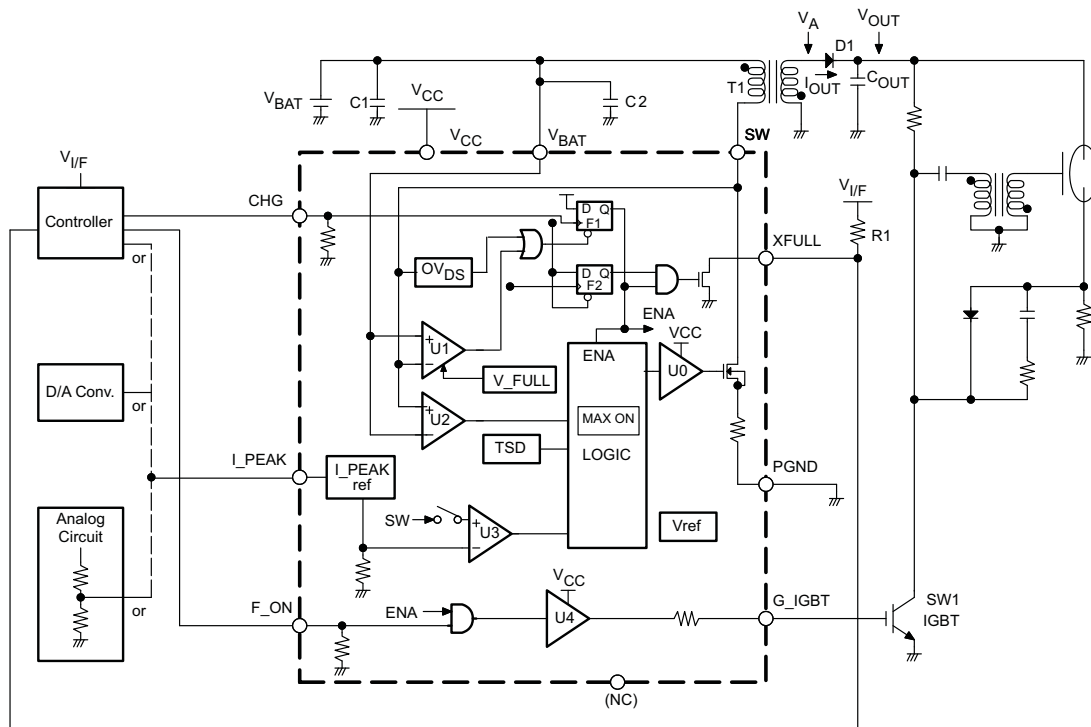
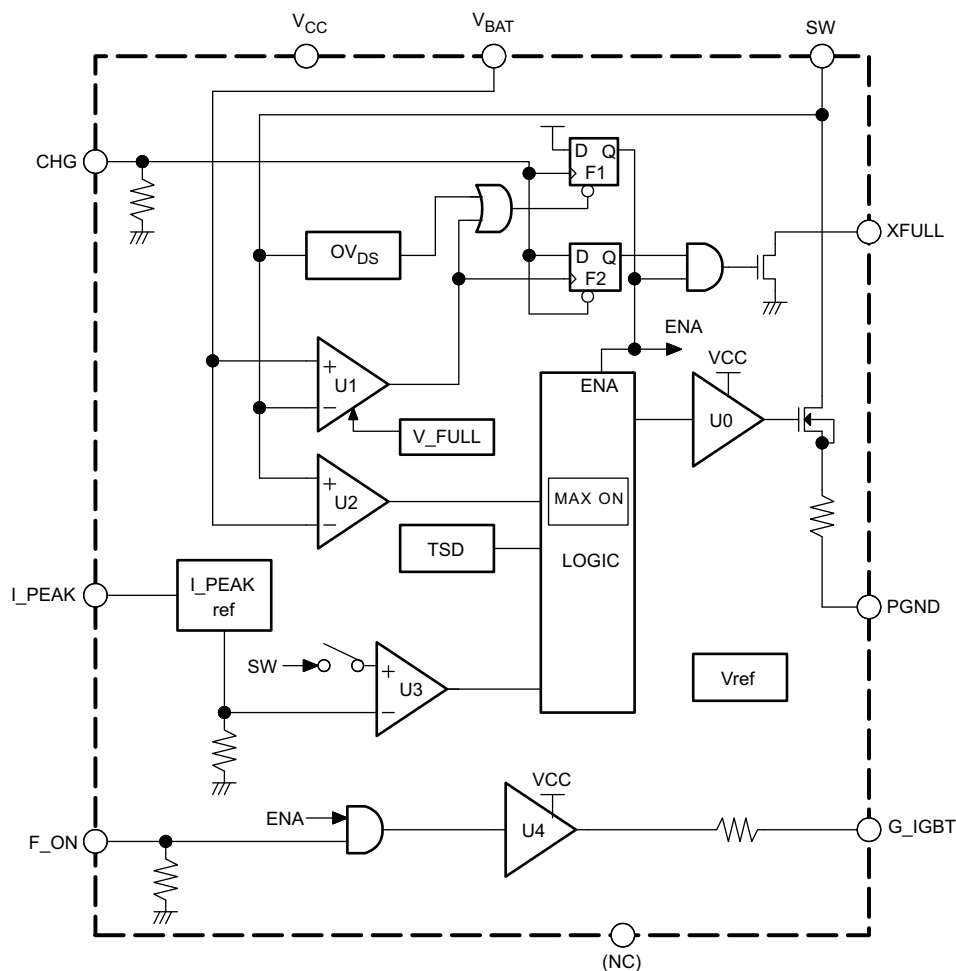
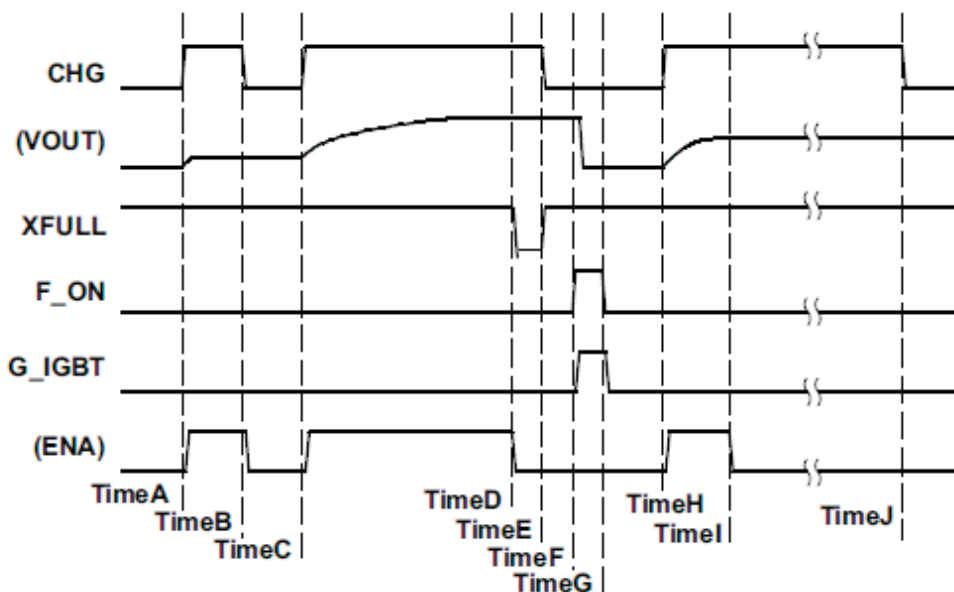
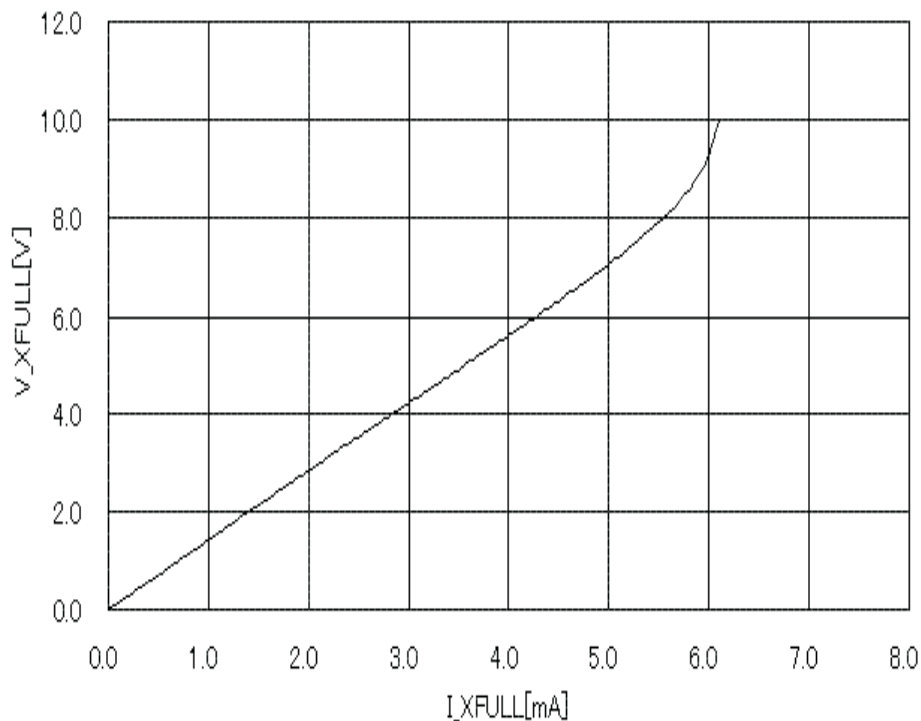

Figure 1. Typical Application Circuit
Figure 2. Block Diagram
Figure 4. Whole Operation Sequence Diagram
Figure 16. I_{XFULL} vs V_{FULL}
The TPS65560/TPS65561 photo flash chargers offer a complete solution for charging a photo flash capacitor from a battery input, and subsequently discharging the capacitor to a xenon flash tube. These devices have an integrated voltage reference, power switch, insulated gate bipolar transistor (IGBT) driver, and control logic blocks for capacitor charging and driving IGBT applications. Compared with discrete solutions, these devices reduce the component count, shrink the solution size, and ease designs for xenon tube applications. Additional advantages are fast charging times and high efficiency from an optimized PWM control algorithm. The typical application circuit is shown in Figure 1.
The TPS65560/TPS65561 have one internal enable latch, F1, that holds the state (ON/OFF status) of the device (see Figure 2). The only way to start charging is to input the rising edge into the CHG pin (see time A/C/H in Figure 4). Each time the rising edge is applied, the TPS65560/TPS65561 start charging.
- Forcing a STOP by setting the CHG pin to a logic low (see time B in Figure 4).
- This manually stops the charging. Setting the CHG pin to low forces the internal enable signal (ENA) (see Figure 2) low and the internal FET switch turns off.
- Automatic STOP by detecting the output voltage when V_{OUT} reaches the target value (see time D in Figure 4).
- This is the standard stop function. U1 (see Figure 2) compares $(V_{SW} - V_{BAT})$ to V_{FULL} , which is the target voltage on the primary side. (V_{SW} is the voltage at the SW pin and V_{BAT} is the battery voltage.) The TPS65560/TPS65561 automatically stop charging when $(V_{SW} - V_{BAT})$ exceeds V_{FULL} .
- Protected stop by detecting an overvoltage (OVDS) on the SW pin (see time I in Figure 4).
The TPS65560/TPS65561 application circuit is based on a flyback power-supply topology. When the internal FET switch turns on, current, which is programmable by the I_{PEAK} pin voltage, flows into the primary side of the transformer and, thus, stores energy in the primary winding. When the internal FET switch turns off, the stored energy is transferred to the secondary side of the transformer. At that moment, the current flows in the secondary side to the photo flash capacitor (C_{OUT} in Figure 1) via the diode, D1.
The TPS65560/TPS65561 use three comparators (U1, U2, and U3) (see Figure 1 and Figure 2) to determine the state of the internal FET switch. The descriptions for these comparators follow.
The voltage on the I_PEAK pin (V_PEAK) can be controlled in three ways (see Figure 1).
- Use an analog circuit. The function is the same as using a DAC. The voltage on I_PEAK can be set using an analog circuit as shown in Figure 1.
The XFULL output is configured as an open-drain MOSFET (see Figure 2). The MOSFET has a low current sink capability. The current sink capacity of XFULL is shown in Figure 16.